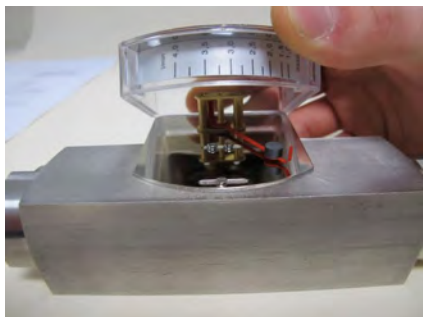

Fig. 38
2. ➤ Carefully remove the display cover plate along with the plastic housing from the base plate. (Fig. 38). Make sure that the pointer mechanism is not damaged.